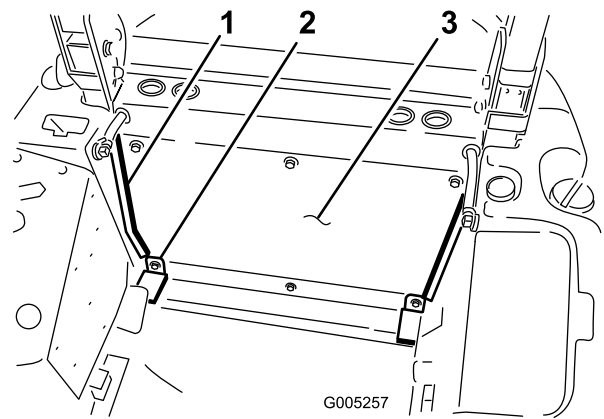

Figure 60
2. Align the corner mat mounting holes with the bottom holes in the rear panel and the lower frame cross member holes (Figure 60). Secure the corner mats to the rear panel and cross member with 2 rear panel mounting screws previously removed. Use the remaining screw to secure the bottom middle of the rear panel to the cross member.
4. Remove the backing and affix the self-adhesive seals to each edge of the rear panel (Figure 60). Make sure each seal butts up against the fuel tank side panels.